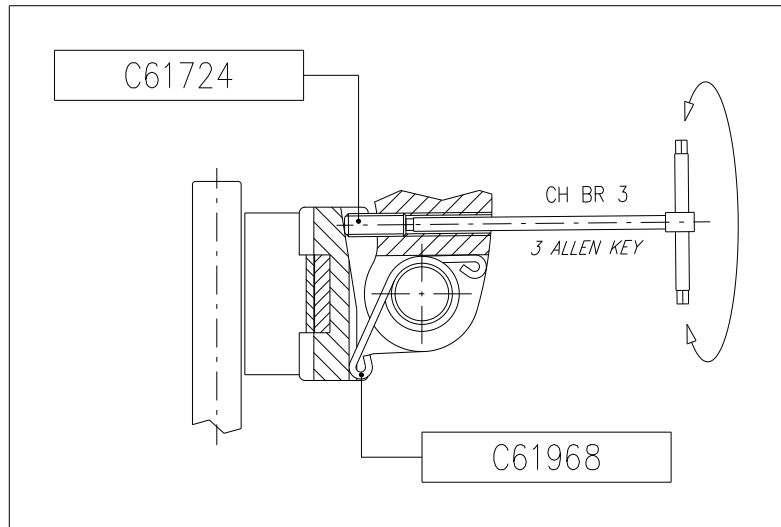

Figure 3
- Adjust the brake shoes using the grub screw C61723 rotating it in the appropriate direction with a n. 3 Allen key; the friction surface of the brake linings must be parallel to the surface of the disc (Figure 3).
4. Insert the new lining pads and reassemble the shoe following the sequence in point 2 in reverse order, positioning the shoe alignment spring C61968 as indicated in Figure 3.
3. Remove the shoe alignment spring C61968 from its seat and replace it with a new one positioning it as shown in Figure 3.